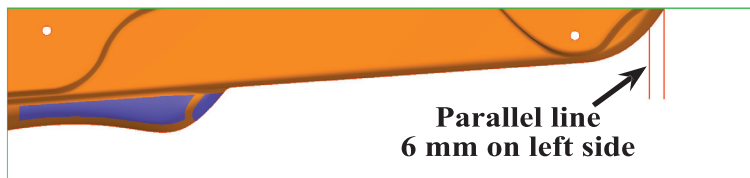
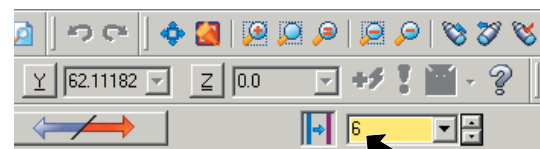

Fig. 38
Fig. 39
Step 10. Click the **vertical line** and click **left side of line**, **Fig. 38**. Key-in **6** for **Distance**  in the ribbon bar, **Fig. 39** and press **ENTER**. Click **OK**  in ribbon bar.